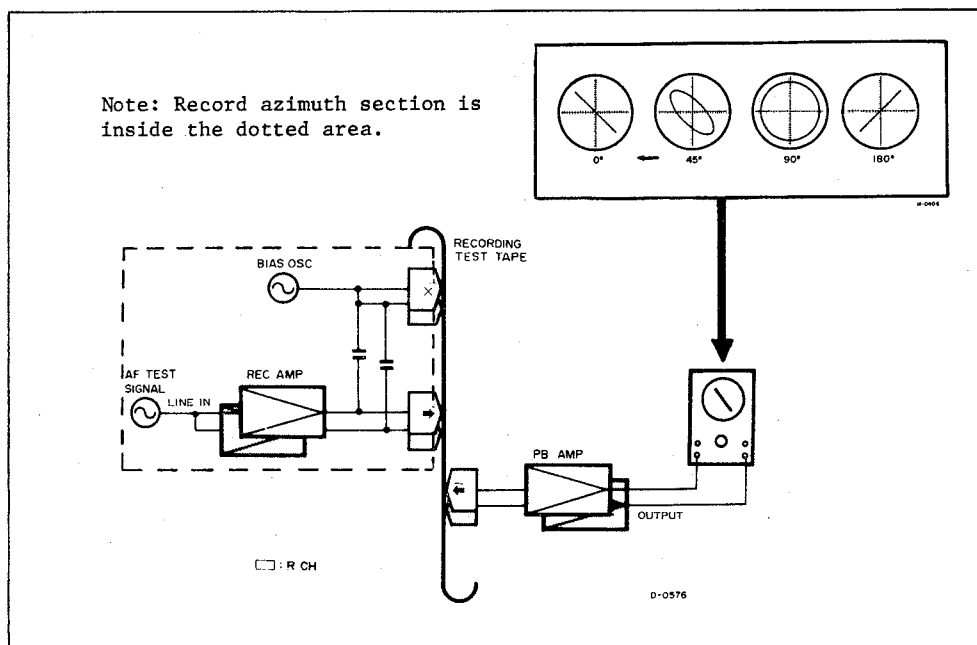

Fig. 7-2 Fine Adjustment Set-Up -Head Azimuth-
6. Connect the test equipment as shown in Fig. 7-2 below.
7. Connect the test equipment as shown in Fig. 7-2.